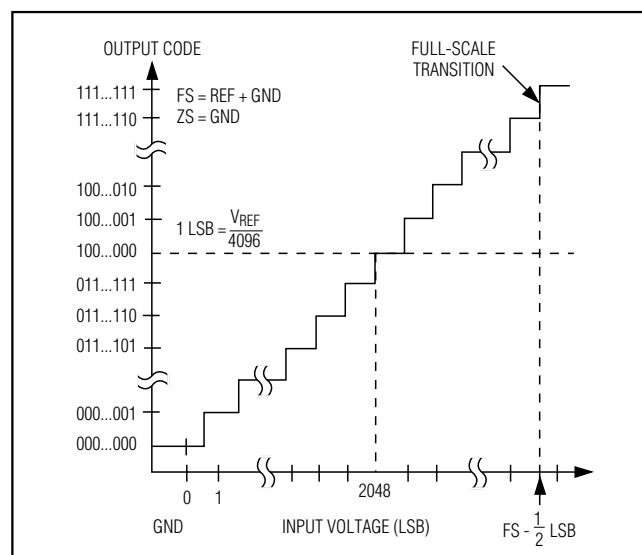

Figure 12. Unipolar Transfer Function
of bits (12). Code transitions occur halfway between successive-integer LSB values. Figures 12 and 13 show the input/output (I/O) transfer functions for unipolar and bipolar operations, respectively.